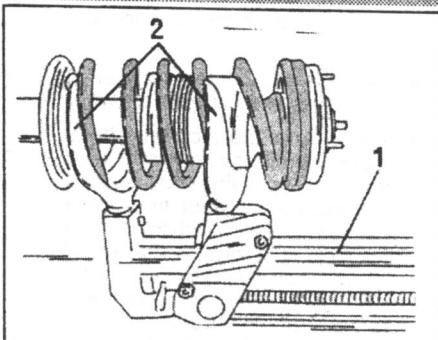

Fig. 5.4. — The spring compressor (1) can be clamped into a vice. The claws (2) are placed around the coils of the spring.
- Clamp the spring strut into a vice and fit the spring compressor. Fig. 5.4 shows the use of the compres-